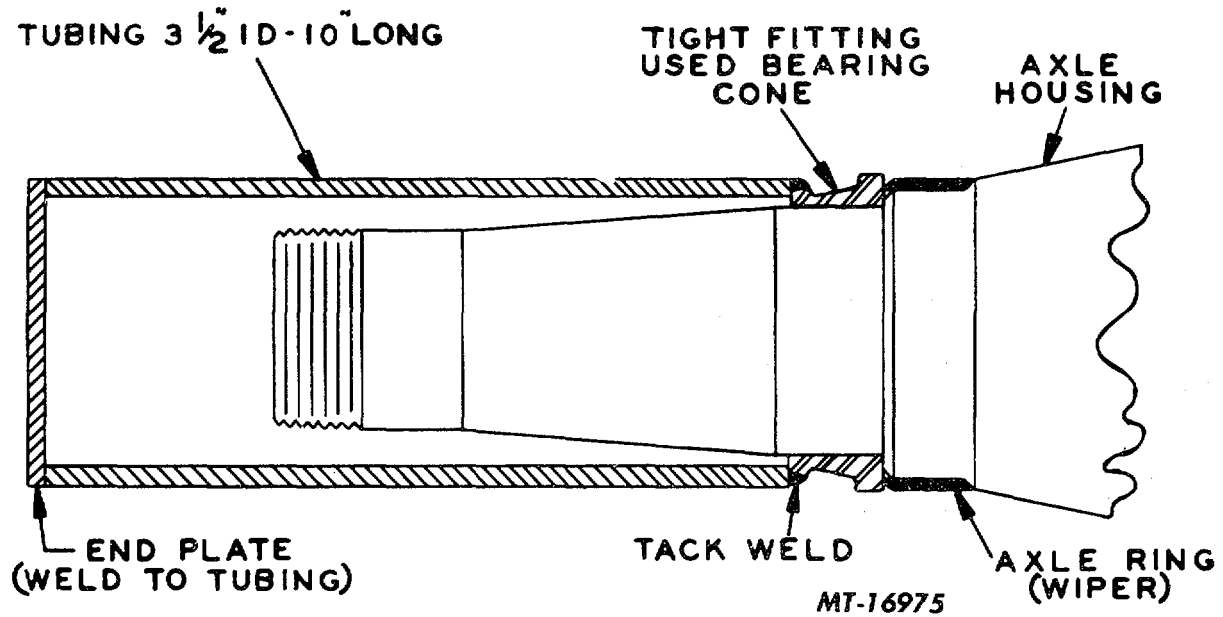

Fig. 5
4. Place axle ring on axle tube or spindle using an installing tool (Fig. 5).